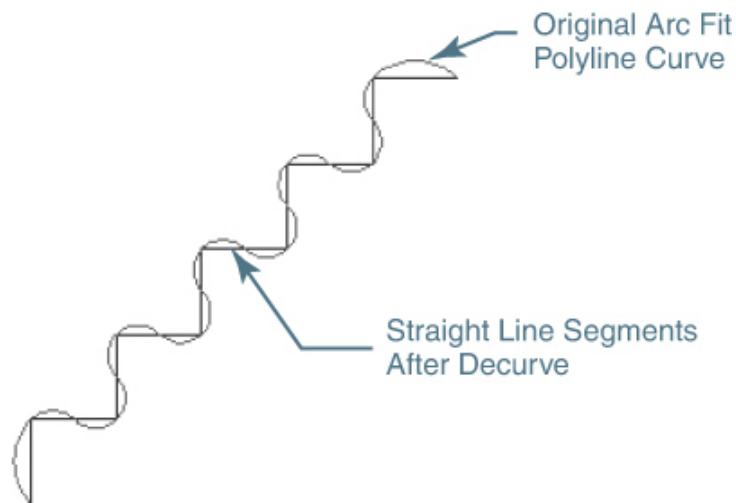

Figure 9-45
The **Decurve** option removes extra points inserted by an arc fit or spline fit curve and straightens all the polyline segments back to their original straight line segments, as shown in Figure 9-45.
- 4 Convert both curve fit polylines created in steps 2 and 3 back into straight line segments similar to those shown in Figure 9-45 using the **PEDIT** command and the **Decurve** option.